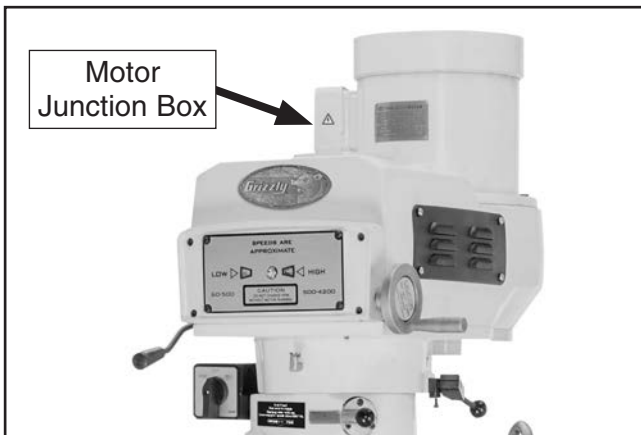

Figure 9. Location of motor junction box.
2. Remove cover from motor junction box (see **Figure 9**).